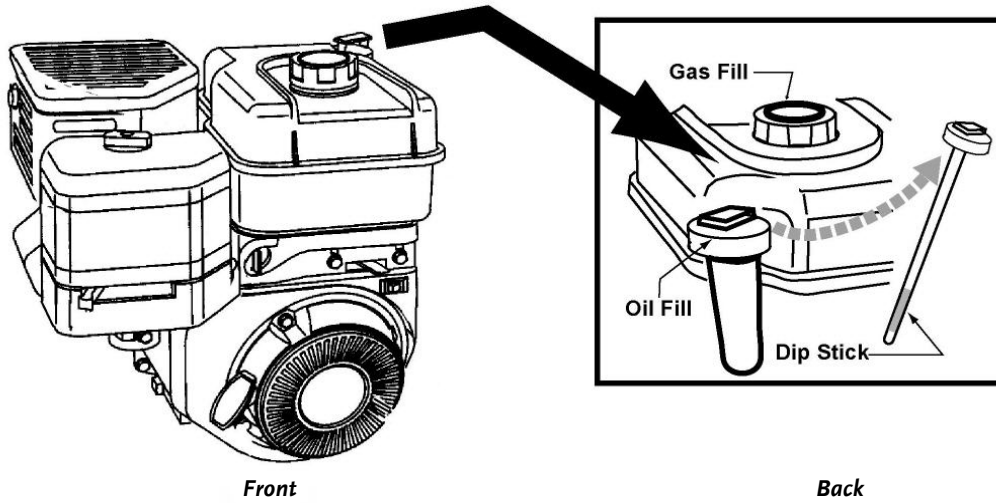

Figure 2
1. Place the machine on a level surface and initially add 1/2 of the SAE 30 high detergent oil recommended by the engine manufacturer and wait one minute for the oil to settle (**Figure 2** on page 15).
2. Check the dipstick and continue adding a few ounces of oil at a time, rechecking the dipstick until the oil reaches the fill mark. Be careful not to overfill (**Figure 2** on page 15).